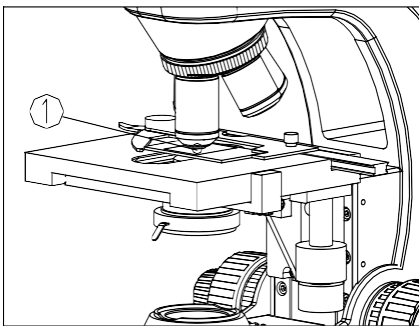

Fig.16
2. Place a drop of oil① on the specimen (see Fig. 16).